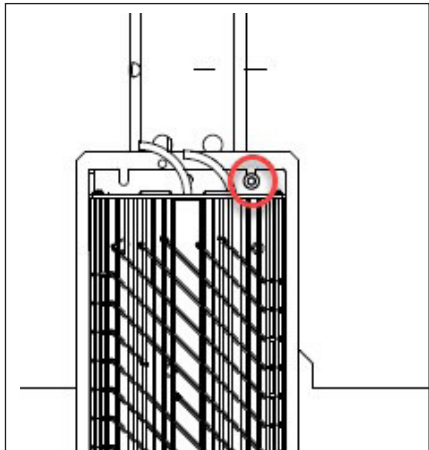
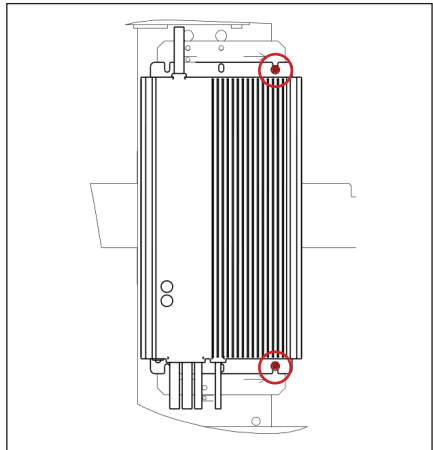

Figure 44: Bulk Mounting Screws
Figure 45: MEAN WELL®, Enedo®, or SL Mounting Screws
- 4. Remove the TORX®-drive mounting screws from the power supply and detach the power supply from the mounting plates. Refer to **Figure 44** and **Figure 45**.